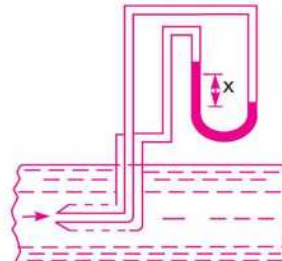

Fig. 6.17
4. Pitot-static tube, which consists of two circular concentric tubes one inside the other with some annular space in between as shown in Fig. 6.17. The outlet of these two tubes are connected to the differential manometer where the difference of pressure head 'h' is measured by knowing the